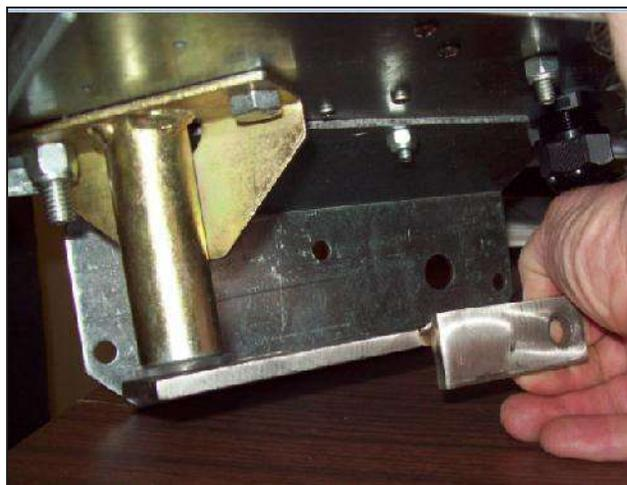
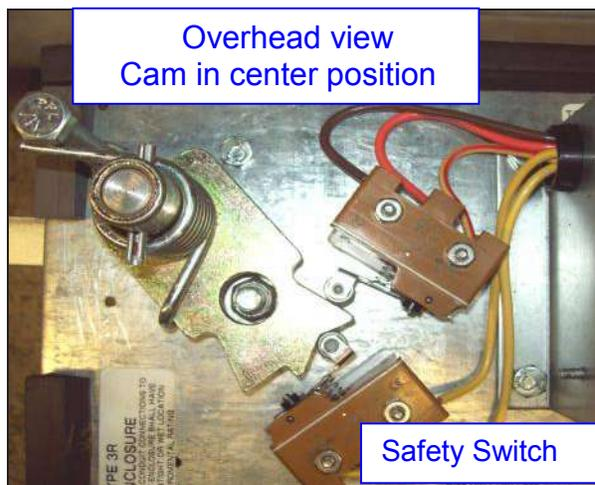

Fig 1a.
Fig 1b.
1. Physically move the Cam Actuator (Fig. 1a.) and place the roller wheel of the safety switch in the bottom of the safety groove (Fig. 1b.).